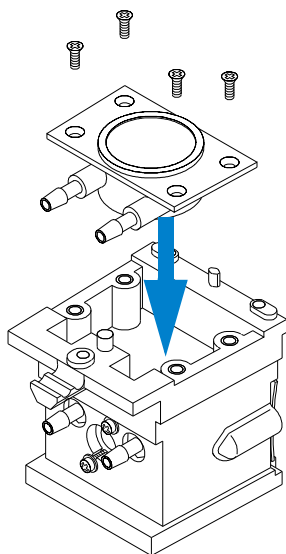

Figure 15 Installing the Cell Stirring Module
- 3 Insert the cell stirring module into the cavity in the base of the thermostatable cell holder, see Figure 15.